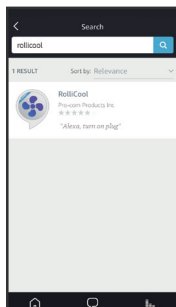

Fig. 4
Step 1. Search “RolliCool” in the Amazon Alexa app home screen (fig. 4).